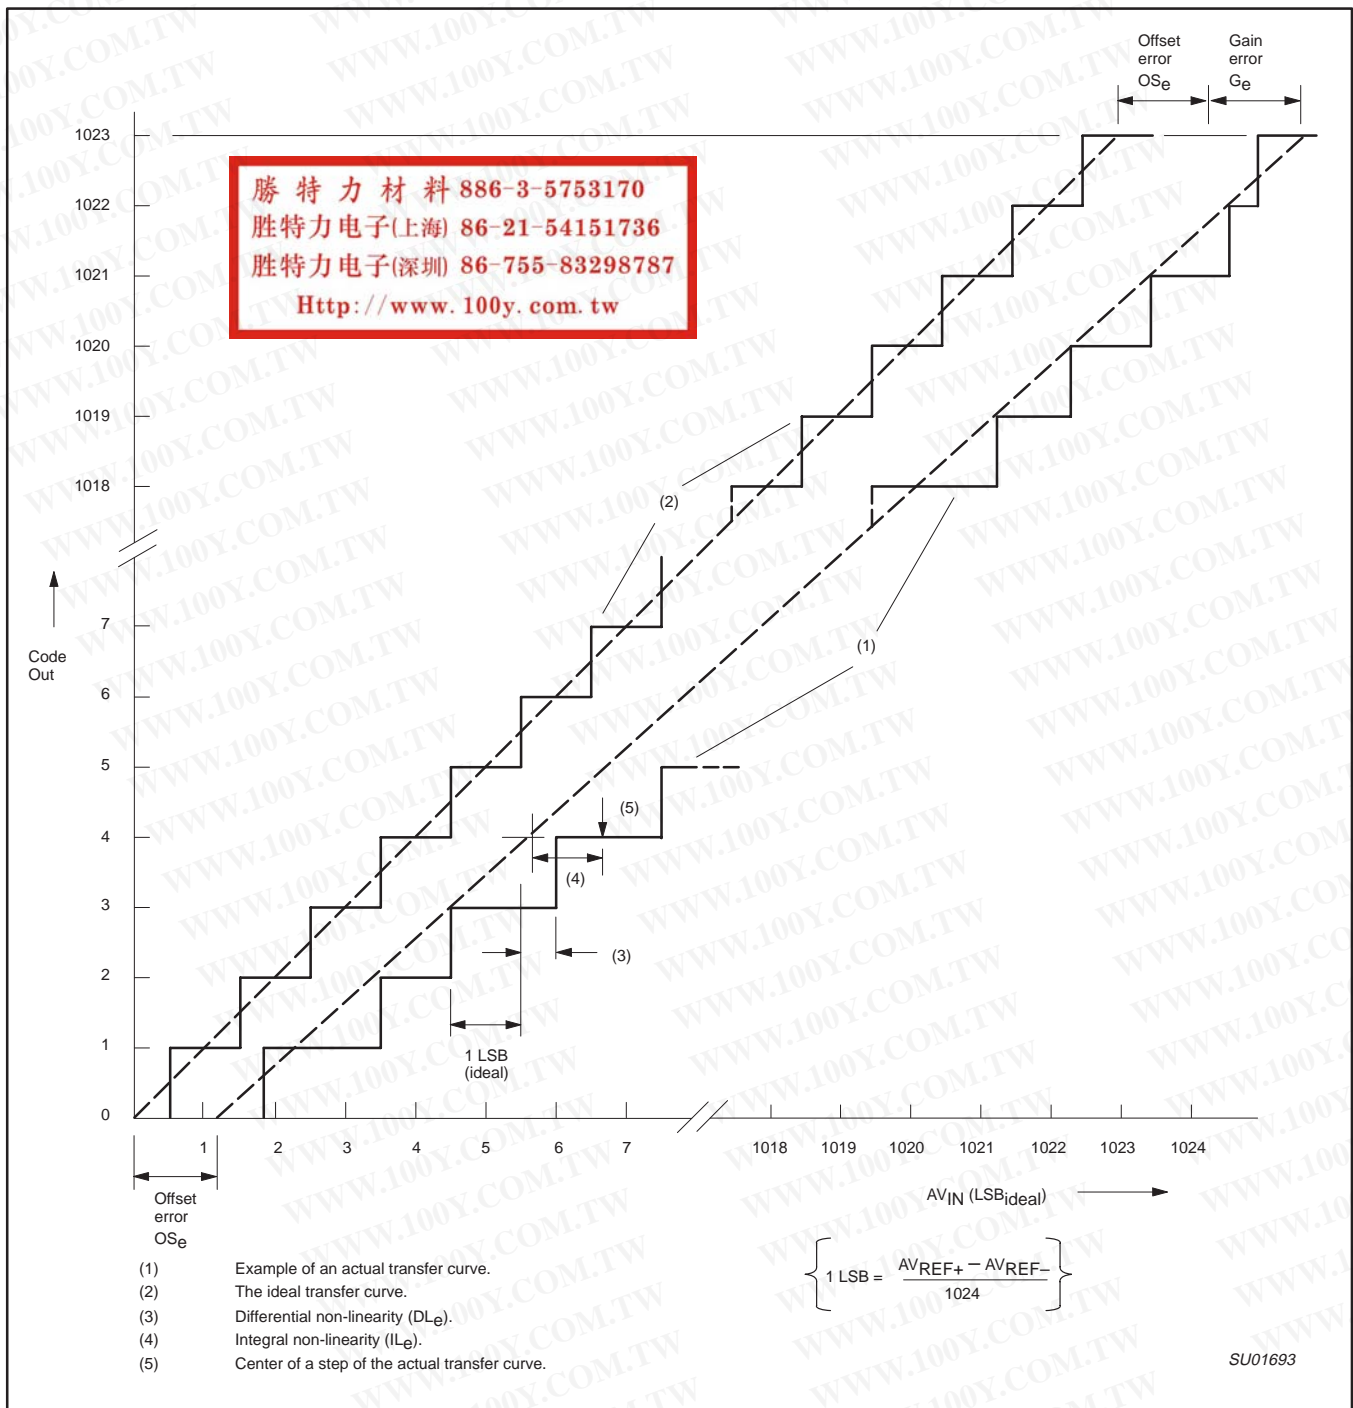

Figure 1. ADC Conversion Characteristic
- The differential non-linearity (DLe) is the difference between the actual step width and the ideal step width. (See Figure 1.)
- The integral non-linearity (ILe) is the peak difference between the center of the steps of the actual and the ideal transfer curve after appropriate adjustment of gain and offset error. (See Figure 1.)
- 14. The offset error ( $OS_e$ ) is the absolute difference between the straight line which fits the actual transfer curve (after removing gain error), and a straight line which fits the ideal transfer curve. (See Figure 1.)
- 15. The gain error ( $G_e$ ) is the relative difference in percent between the straight line fitting the actual transfer curve (after removing offset error), and the straight line which fits the ideal transfer curve. Gain error is constant at every point on the transfer curve. (See Figure 1.)